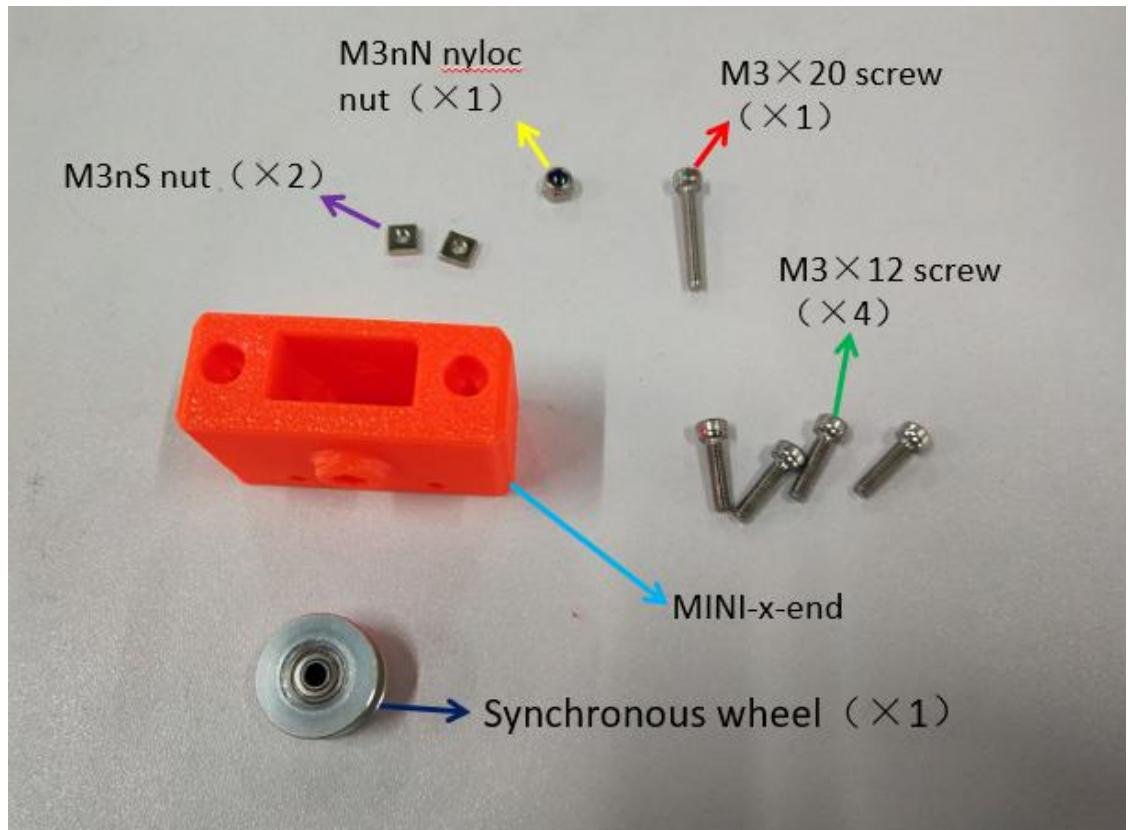

Figure 2.9.1
**Step 2-9-1:** As shown in Figure 2.9.1, prepare the materials and check whether the quantity of materials is correct, and prepare for the next installation.